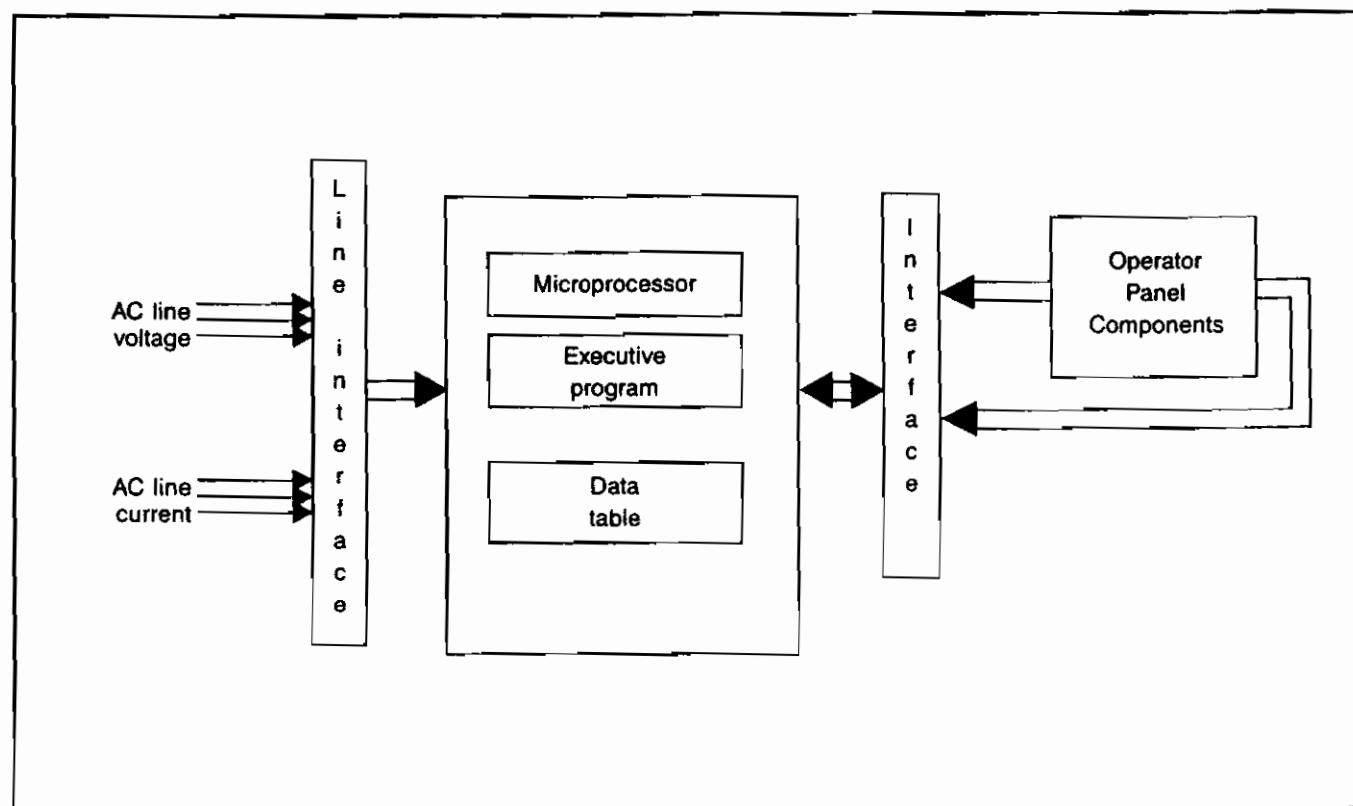

Figure 6.1 — IQ Data Basic Block
6.1 Basic Block — The IQ Data is controlled by a self-contained microprocessor which is directed by an "executive program" resident in ROM (read-only memory). (See Figure 6.1.) The microprocessor directs the following 2 operations: